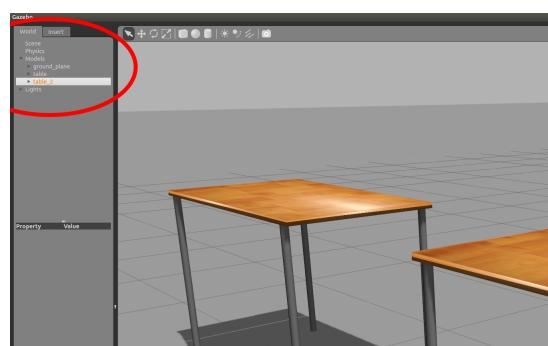

Figure 3.3: Removing one model.
6.- To remove a model from the simulation. Click on the *World* tab from the left panel. Then, expand the *Models* list (see Fig. 3.3). These are the models included in the simulation. Right click on one of the table names and click *Delete*.